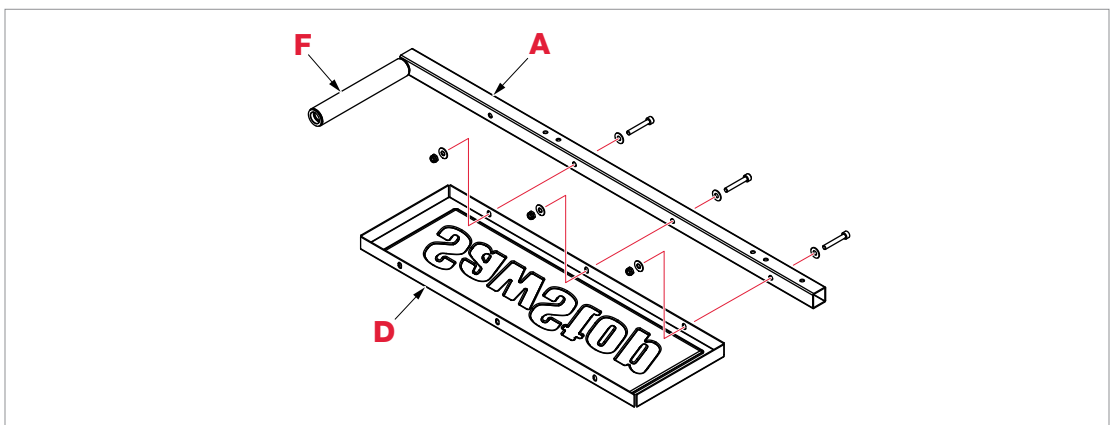

Fig. 32
- 3 Place the insert table (D) between the table tubes (A), with the text on the bottom so the three mounting holes in the side of the insert table line up with the three insert table mounting holes in the table tube attached to the large table roller (see Fig. 32).